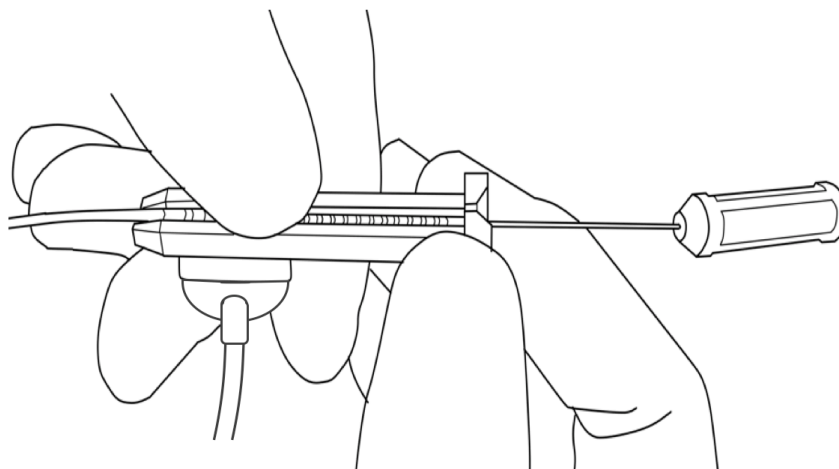

Figure 10.3: Pushing lead into slot.
2. Push the lead down into the slot completely using a finger (see Figure 10.3), so that the lead is flush with the top of the slot. The lead should not move when fully pushed into the slot. After the lead is in the slot, press down again along its length to ensure it is secure in the slot.
open side of the top cover aligned with the cable connection. Slide the top cover all the way onto the distal end until the notch on the top cover clips into place (see Figure 10.3).